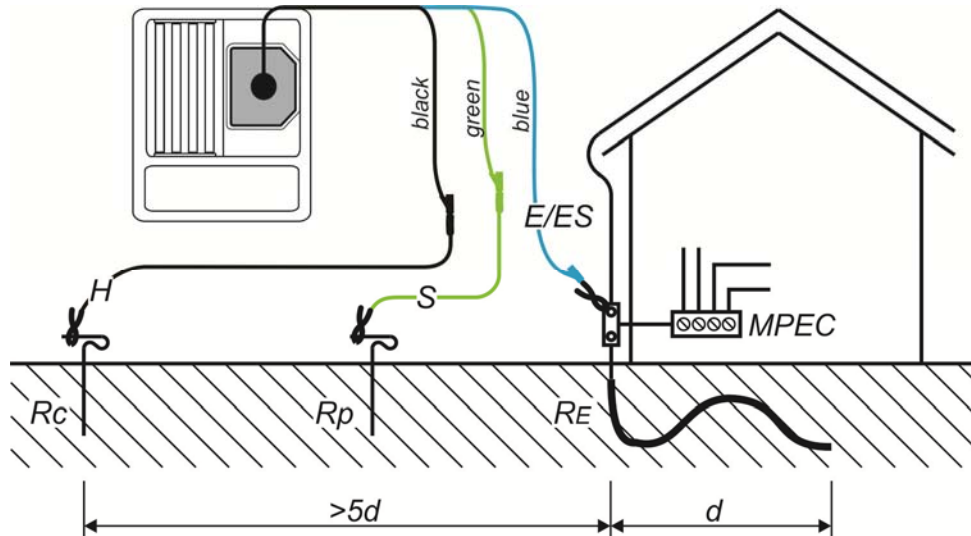

Figure 5.33: Resistance to earth, measurement of main installation earthing
- Connect** the item to be tested (see *Figure 5.33* and *Figure 5.34*).